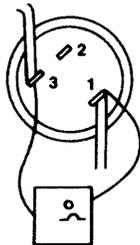

FIGURE 6. OVERLOAD CHECK
OVERLOAD CHECK – FIGURE 6.
3. Problems in the gear motor electrical circuit. See Figure 6